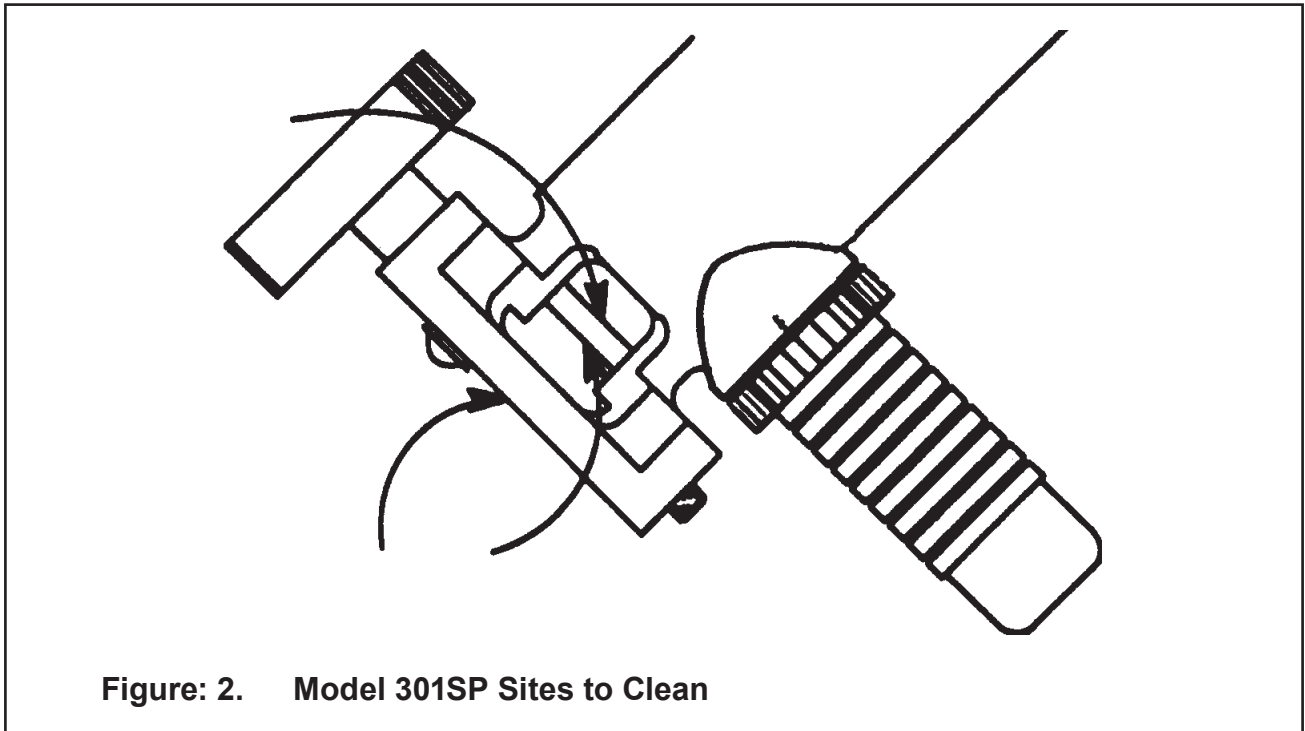

Figure: 2. Model 301SP Sites to Clean
- Clean all components, refer to Fig 2.